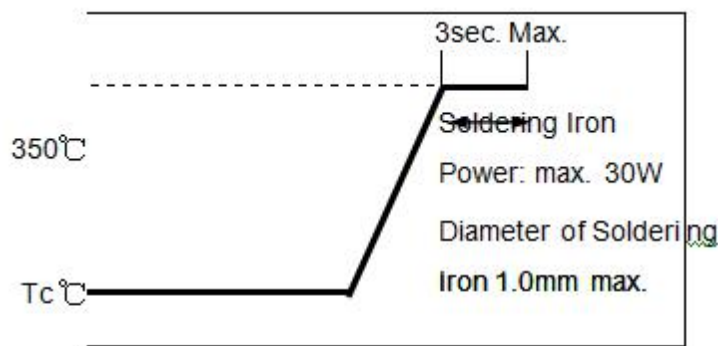

Fig. 2-1
- △ Please refer to **Fig. 2-1**.